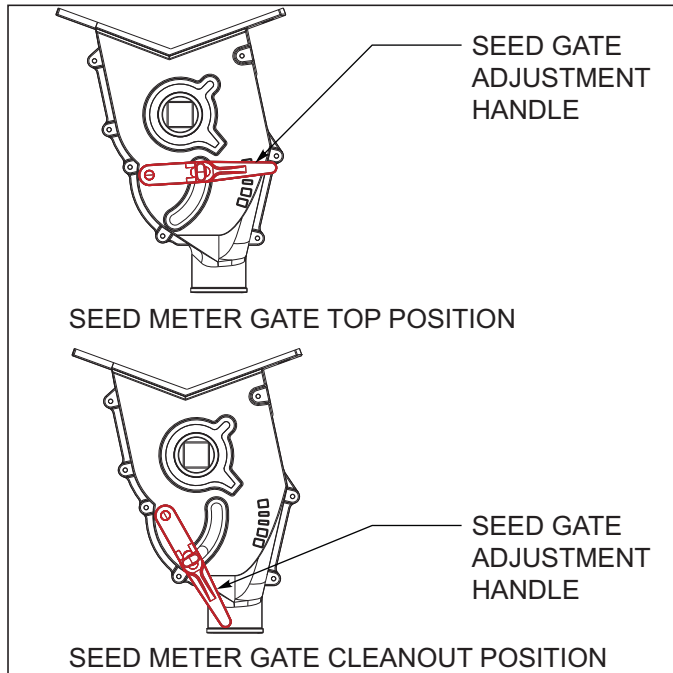

Figure 4-9: Seed Meter Gate Adjustment
1. Use the top seed gate position when planting small seeds such as alfalfa, barley, grass, oats, rice, or wheat **See Figure 4-9.**
5. The seed gate may also be completely lowered to clean out the meter and seed box **See Figure 4-9.** Fully open all seed meter gates at the end of planting season to clean out any remaining seed.